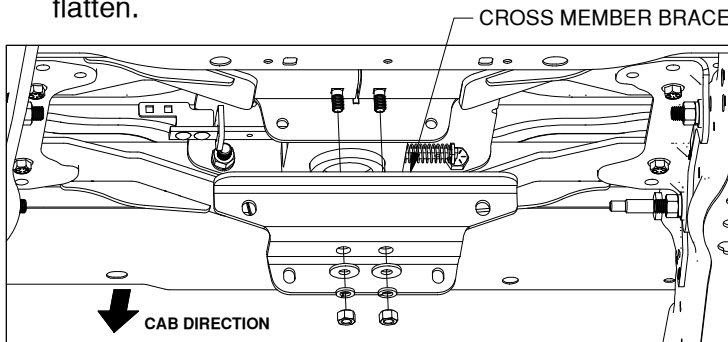

Figure D4: View looking up under the truck bed.
4. **Place the second cross member brace.** Locate a cross member brace and two 1/2" flat washers, lock washers, and finish nuts. Hold the two rear cross members up so that the carriage bolts are in line with each other. Place the cross member brace over two 1/2" carriage bolts, as shown in Figure D4. Attach the brace with the 1/2" hardware. Push the brace tight against the cross members, then tighten the 1/2" nuts on the carriage bolts until the lock washers start to flatten.